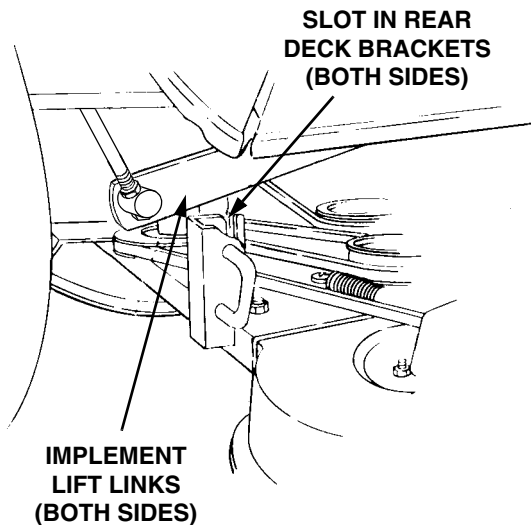

Figure 44
3. Make sure the slot in both rear deck brackets aligns with the implement lift links on each side of the tractor (See Figure 44).